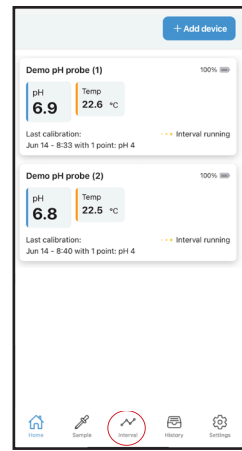

Figure 2
- Select **Interval** from the Home screen (Figure 2)